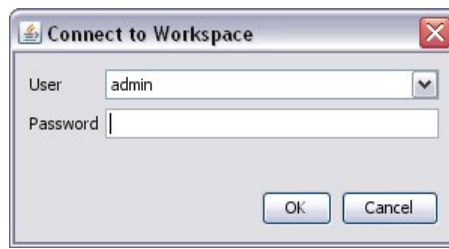

Figure 3: Workspace connection panel
3. Click on “Validate” to open the Figure 3: Workspace connection panel.